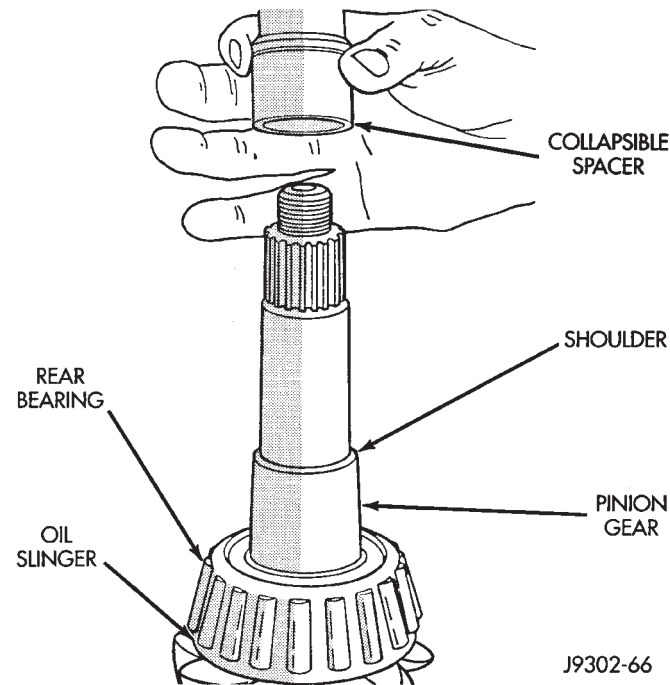

Fig. 20 Collapsible Preload Spacer
- (1) Install a new collapsible preload spacer on pinion shaft (Fig. 20).